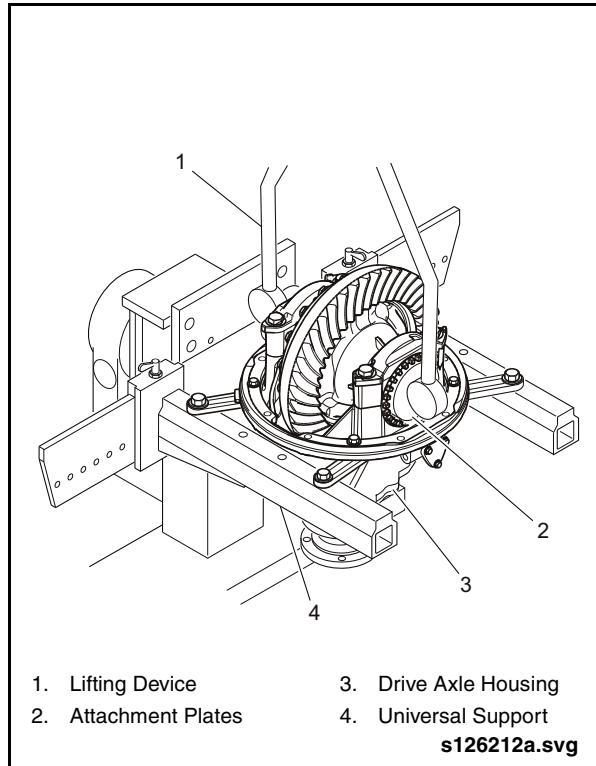

Fig. 2-46: Positioning Differential Carrier in Stand
2. Use a hoist with Lifting Device (Item 47 from Special Tools List) and Attachment Plates (Item 49 from Special Tools List) to position the differential carrier assembly above the engine stand with support fixture. See "Fig. 2-46: Positioning Differential Carrier in Stand" on page 44.